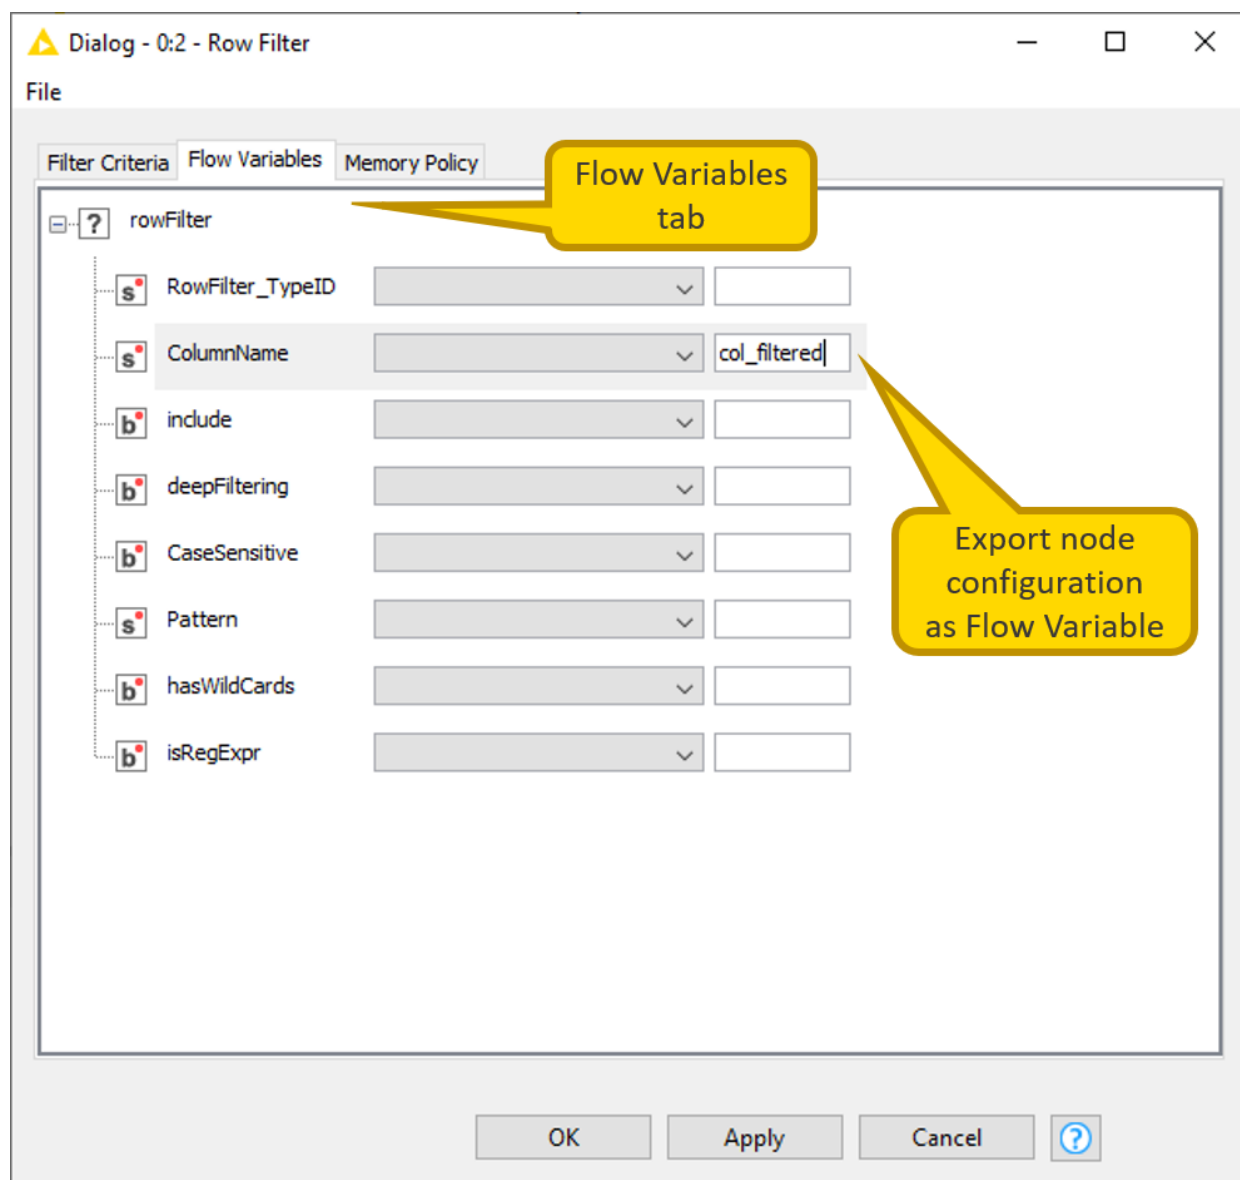

Figure 7. Flow Variables tab in a node configuration dialog
3. Write the flow variable name in the text field close to the drop-down menu in the row corresponding to the node configuration to export, as shown in Figure 7.